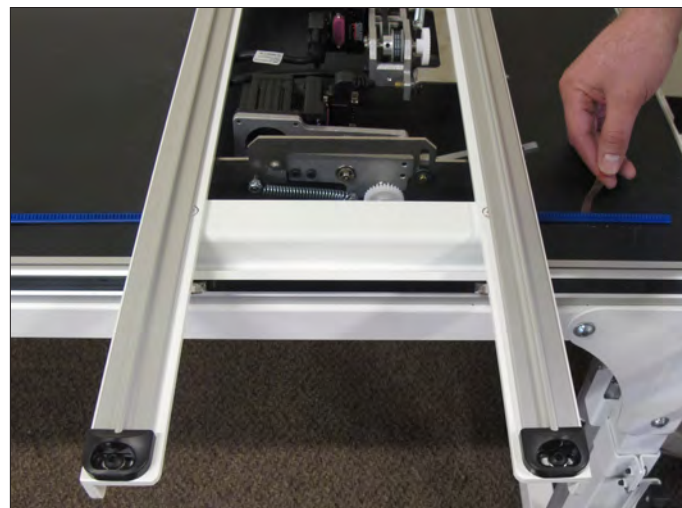

Figure 3.3
2. Place the HQ Pro-Stitcher carriage on the frame. Starting at one end of the table, begin mounting the blue Flexirack to the front of the table while aligning it to the front white gear on the carriage. (Figure 3.3) Peel back just a few inches of the pink protective layer of the tape. Position the blue Flexirack by aligning it to the white gear as you move down the table. (Figure 3.3). Press down on the blue Flexirack to stick it firmly to the table. Use the carriage as a guide and align the blue Flexirack with the white gear along the length of the table (Figure 3.4), removing the pink protective layer and pressing downward on the blue Flexirack while moving down the entire length of the table.